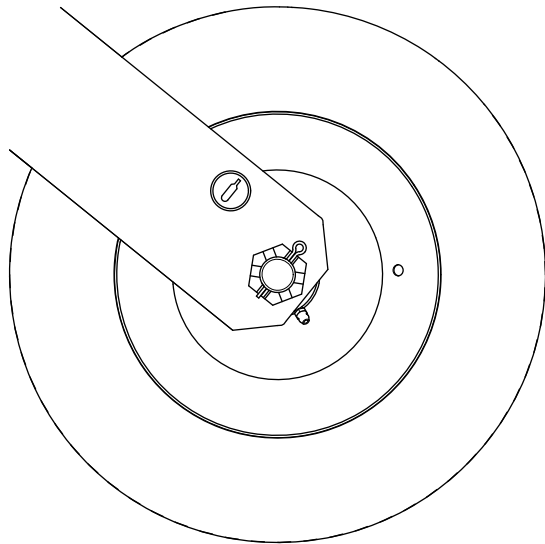

Figure 27
1. Check the tire pressure (Figure 27).